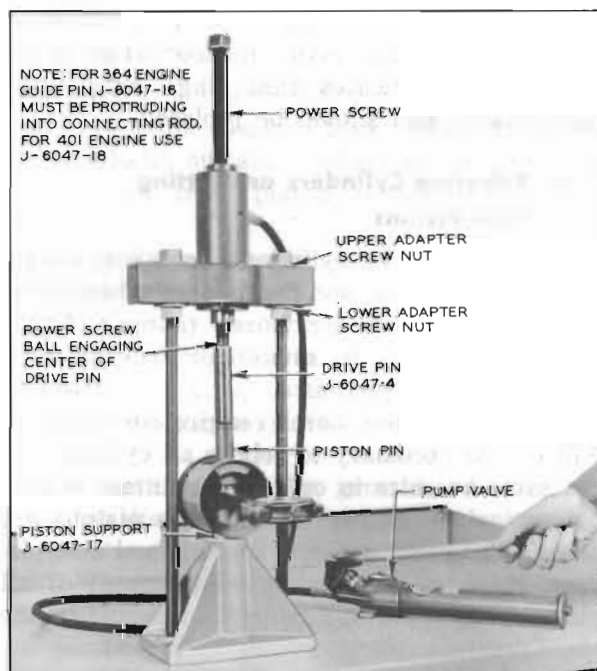

Figure 2-36—Installing Piston Pin
7. Remove compression rings using Ring Expander KMO-232. Then remove oil ring by removing the two rails, spacer, and expander which are separate pieces in each piston third groove. See figure 2-36.
1. To assemble piston, pin, and rod, first place piston support J-6047-16 (for 364 engine) or J-6047-18 (for 401 engine) in base plate of press. Use the piston support with the full radial face upward. See figure 2-36.